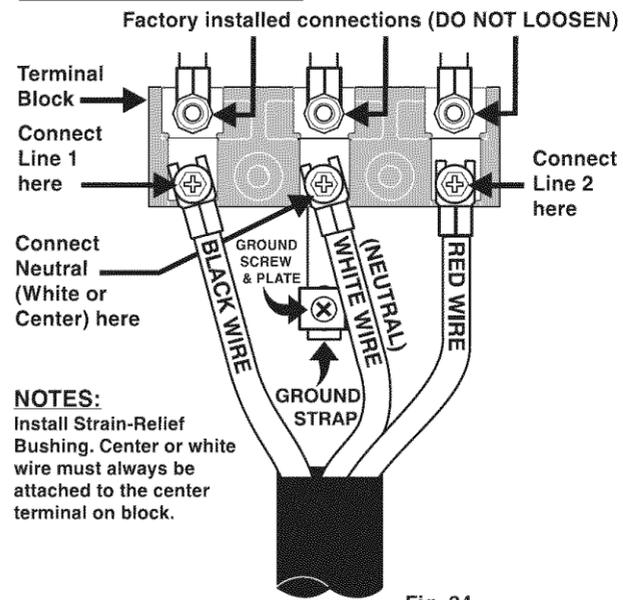

Fig. 34
OR B 3-Wire Connection Instructions (for existing installations ONLY-See Fig. 34)
2. Insert the end connectors for Line 1, Line 2 and Neutral and tighten securely to the terminal block (See Fig. 34). **IMPORTANT NOTE:** DO NOT LOOSEN the factory installed nut connections which secure the range wiring to the terminal block. Electrical failure or loss of electrical connection may occur if these 3 nuts are loosened or removed.
A ground strap is installed on this range which connects the center terminal of the terminal block (neutral) to the range chassis. The ground strap is connected to the range by the center, lowest screw (See Fig. 34). The ground strap must not be removed unless national or local codes do not permit use of ground strap.